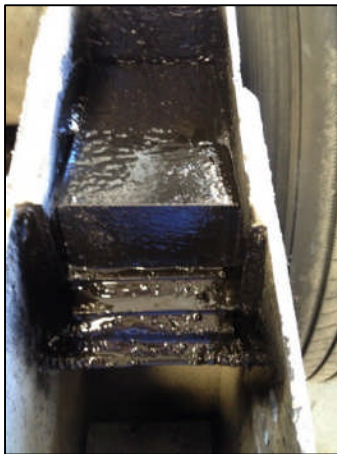

Figure 15
Step 14: Coating the internal areas of the Counterbalance Assembly. (Fig 15)